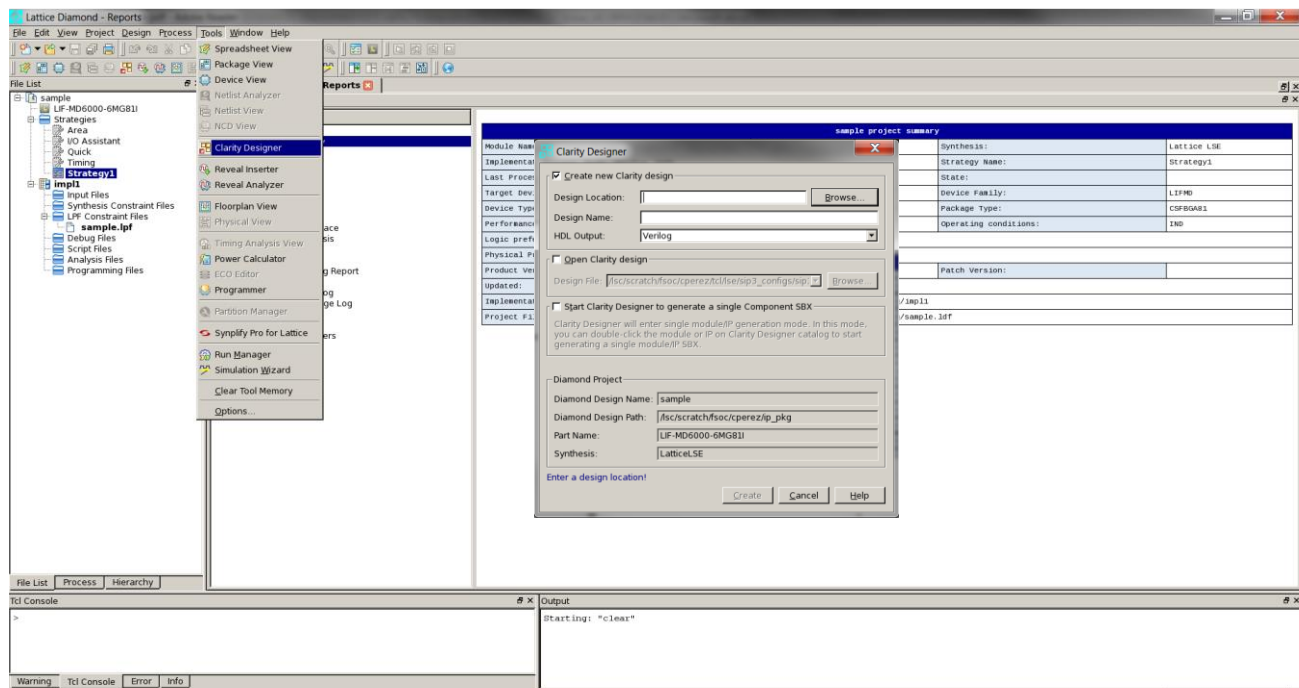

Figure 4.2. Starting Clarity Designer from Diamond Design Environment
3. Select and or fill out the following items as shown in Figure 4.2.